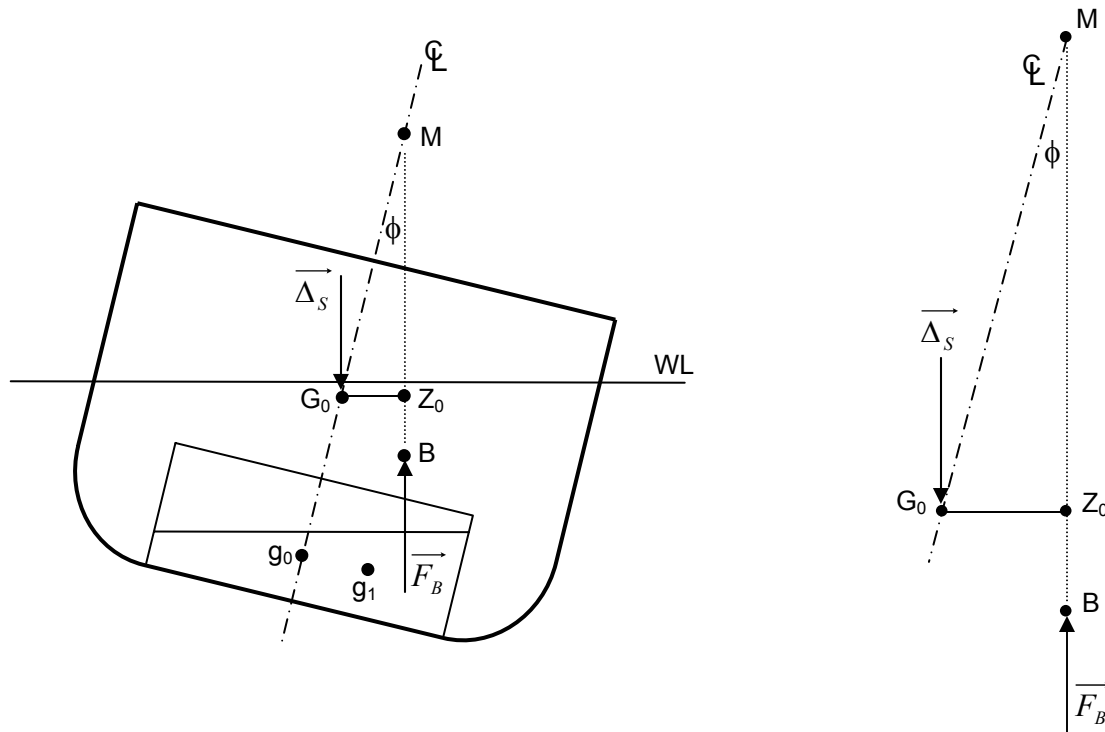

Figure 3 – Ship heeling with partially filled tank
2. On this figure, draw the internal righting arm (GZ) and show the position of the metacenter (M).
3. In the box below write the equation that links the external upsetting moment to the internal righting moment and solve this equation to find an expression for the righting arm (GZ).
4. In this lab a free surface will be produced using half-full tanks of dyed water. The effect that the free surface has on the curve of intact static stability will be measured and compared with the normal loading condition. It is possible to predict this effect by an analysis of the heeling ship shown in Figure 3.
5. On the enlarged view of the heeling diagram in Figure 3, sketch the following:
6. With reference to Figure 3:
11. If the tank in Figure 3 were divided longitudinally into two tanks, how would this affect the effect of the free surface?
12. In the box below, write an expression for the effective metacentric height if the single tank in Figure 3 were divided longitudinally into two separate tanks (*tank 1* and *tank 2*).